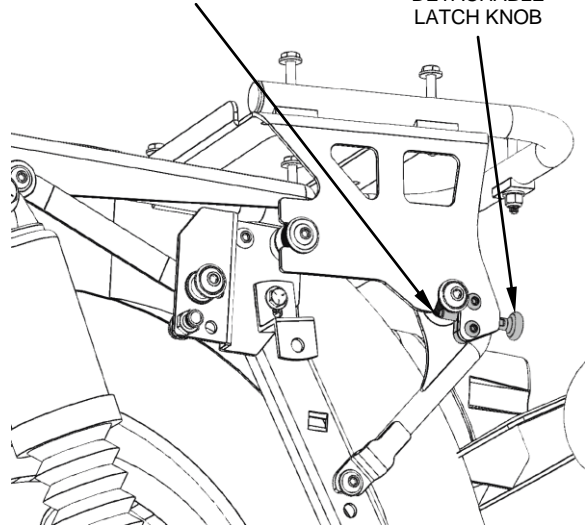

FIGURE 2, CORRECT FITMENT (LEFT SIDE SHOWN, TOUR PACK NOT SHOWN)
4. Make sure that the Tour Pack support tube (3) fits flush in all five of the grooves of the aluminum tube spacers (4), as shown in **FIGURE 2**.
8. Pull backward on both detachable latch knobs (as indicated in **FIGURE 2**) and then push downward on the rack to allow the rack's slots to sit completely in both the front and rear mounting kit bushings. Then release the detachable latch knob to fully engage the latch pin underneath the rear mounting kit bushing, as shown in **FIGURE 2**.
9. Before each ride, ensure that the detachable latches are fully engaged underneath the rear mounting bushings (as indicated in **FIGURE 2**).